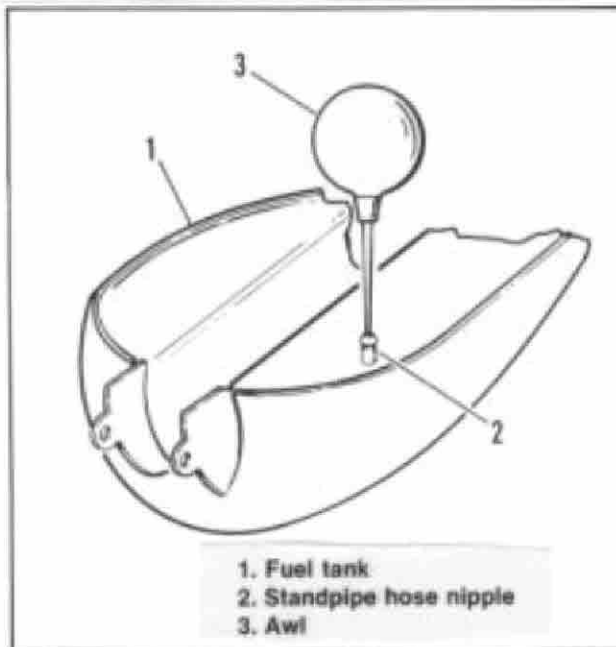

Figure 4. Standpipe Hose Nipple Modification
1. See Figure 4. Remove fuel tank filler cap and turn tank upside down on clean cloth.